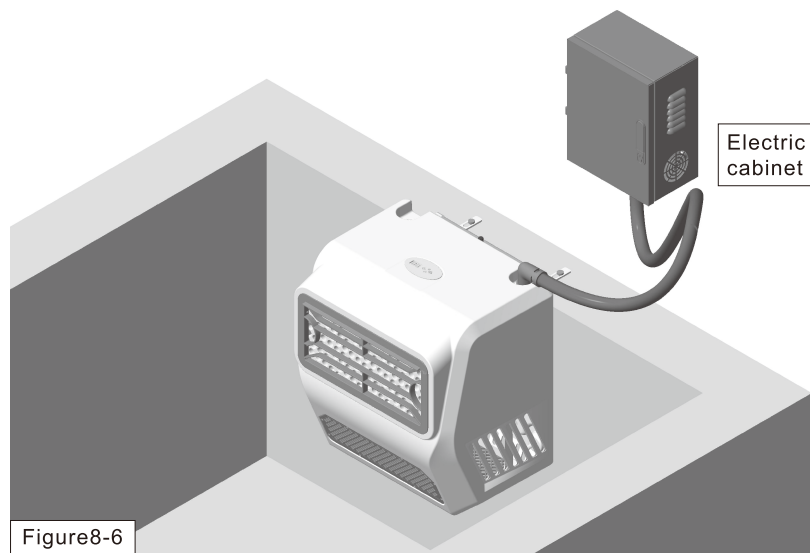

Figure8-6
5.As shown in Figure 8-6, connect the power cord to the electrical control box to complete the installation.